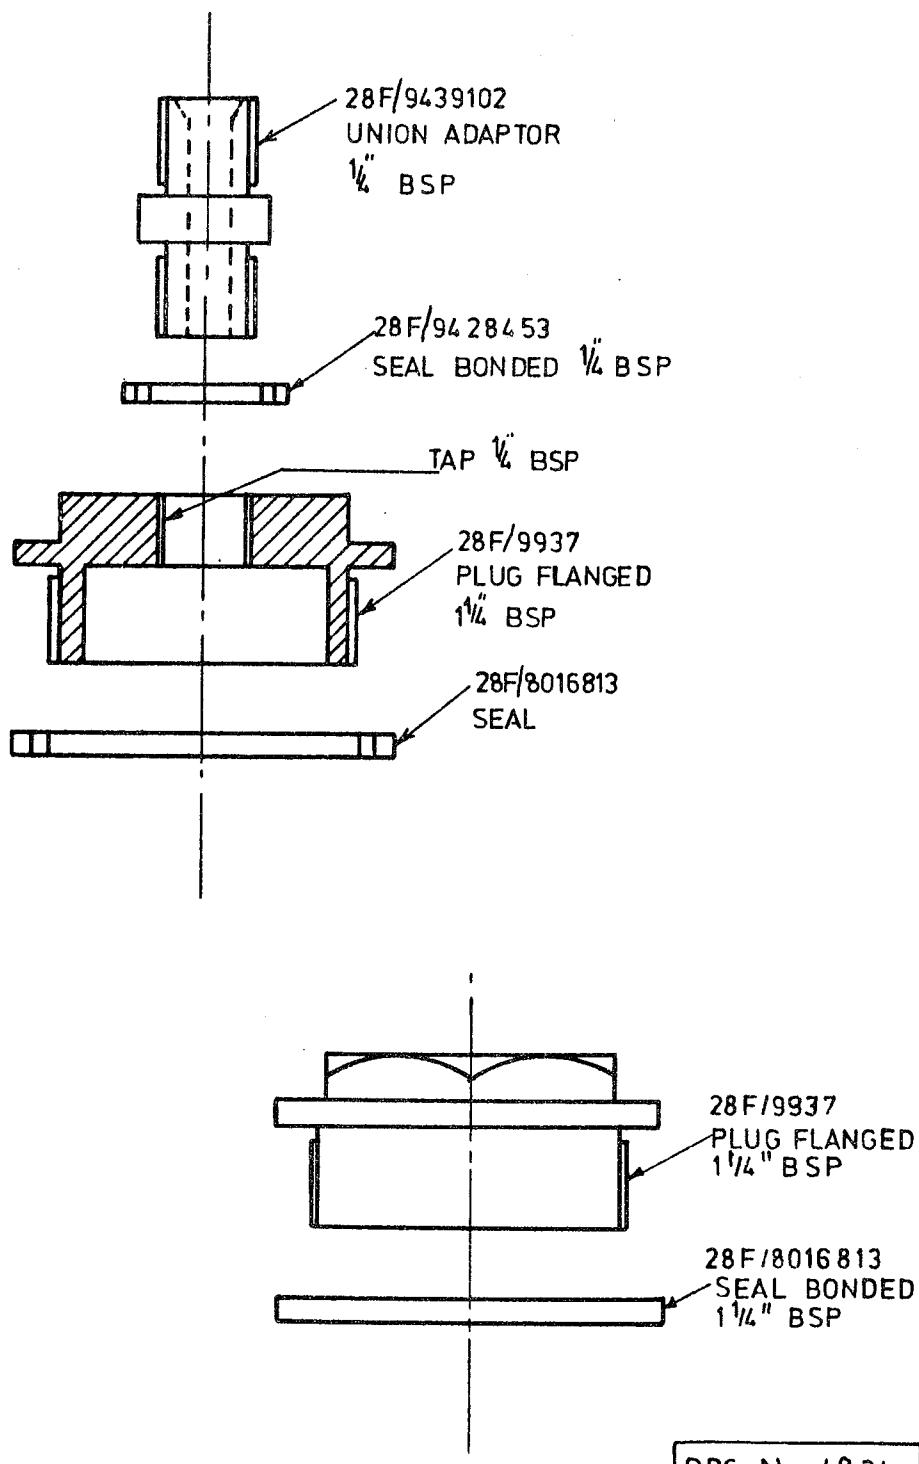

Fig.2 Test adapter and blank
Fit test blank. (Fig 2).
8.4 Adapter. (Fig 2).